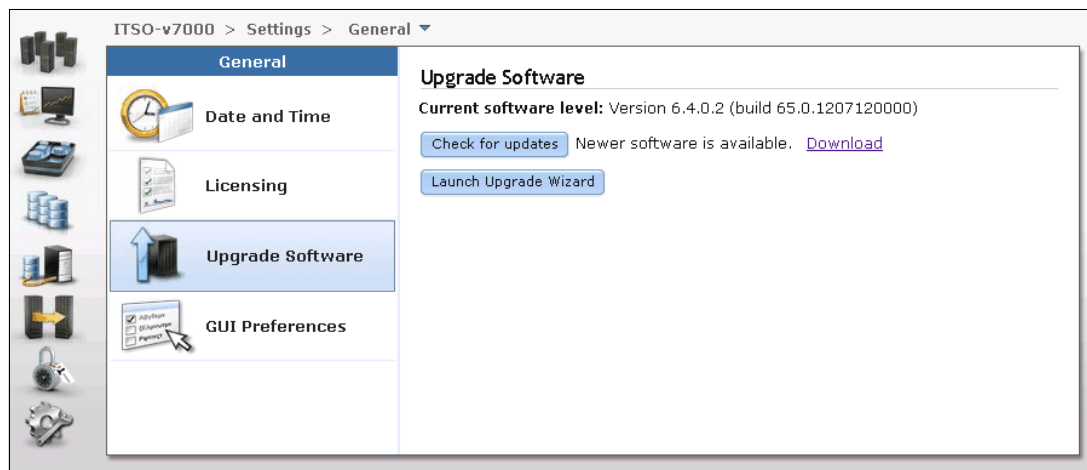

Figure 13-9 Upgrade Software menu
- In the General menu, choose **Upgrade Software**. The Upgrade Software pane opens (Figure 13-9).